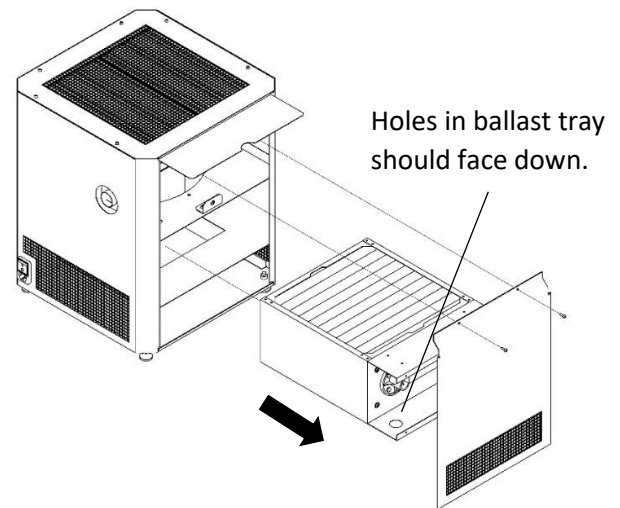

Figure 4
- 5.) Remove PCP panel. See Figure 4.
13.) Reinsert PCP panel. Ensure that arrows on panel match the direction of air flow. See Figure 4.
12.) Reinsert PCP panel. Ensure that arrows on panel match the direction of air flow. See Figure 4.
- 8.) Reinsert PCP panel. Ensure that arrows on panel match the direction of air flow. See Figure 4.